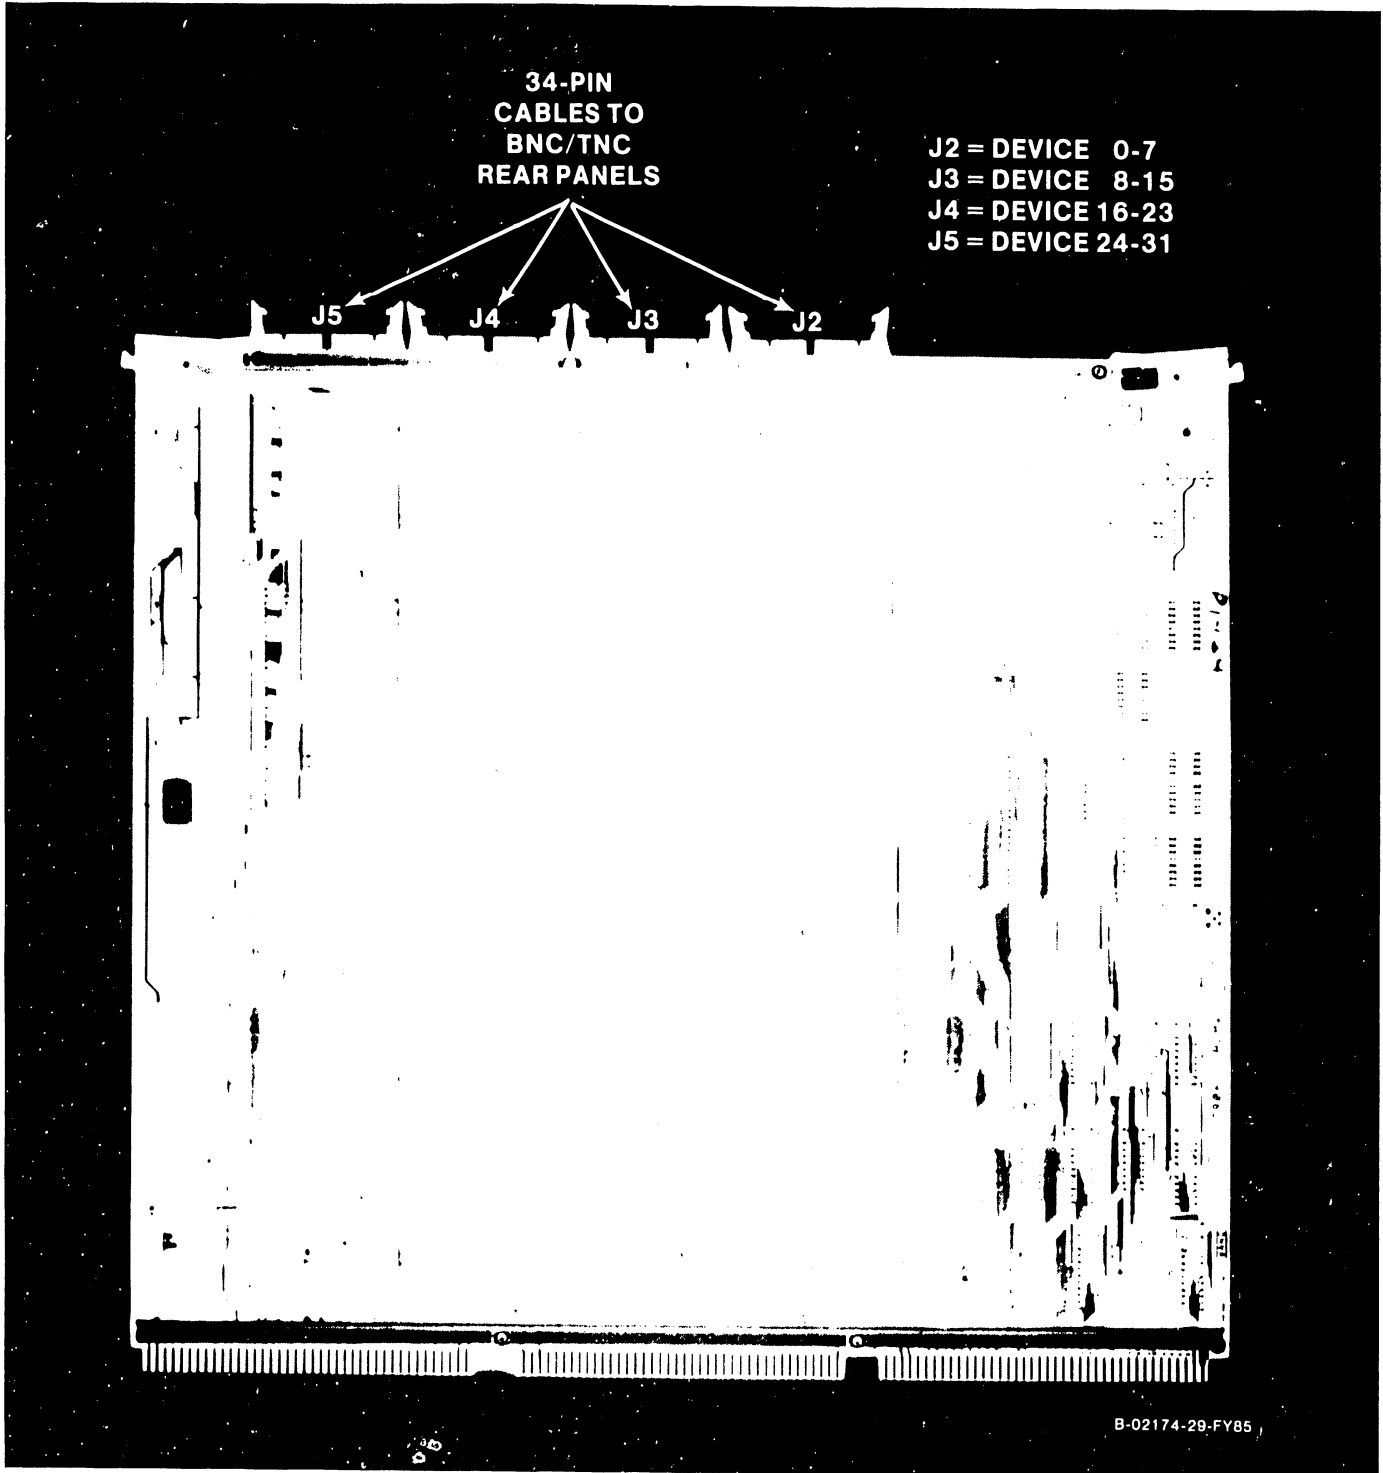

Figure 5-14. Serial Input and Output Device Adapter
2. Remove all connectors from the top of the SIO DA (figure 5-14) located in Motherboard slot number 4 (I/O DA1). Note the position of each connector for later reassembly.